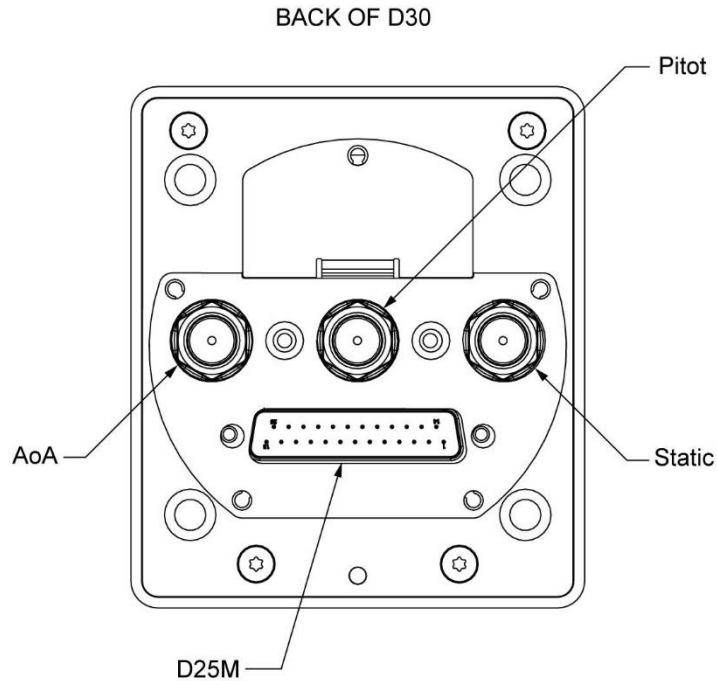

Figure 13: Pneumatic Pipe Fittings and D25M Connector
4. Disconnect harness connector from back of unit (see Figure 13) by loosening retaining screws and pulling out connector.
5. Disconnect and plug pitot and static flexible tubes from back of unit (see Figure 13). Mark tubes for identification during re-installation.
1. Remove caps from 1/8" NPT fittings on back of unit (see Figure 13). Leave AoA pipe fitting capped.
5. Plug harness connector into mating connector on back of unit (see Figure 13), and then hand-tighten retention screws to secure.